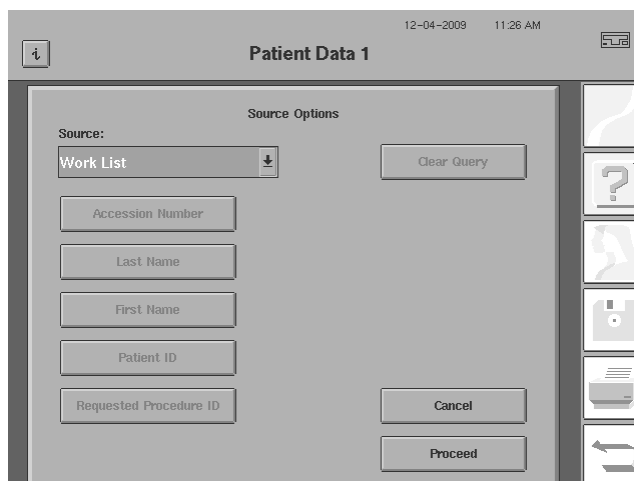

Figure 14.52 Source Options Screen (RETRIEVE ONLY)
- If the Work List Mode is QUERY AND RETRIEVE (See "Setting Up Work Lists for Non-DICOM EMR/PMS Systems and DICOM Systems using DICOM Gateway 1.0," on page I-23), you can limit the selection by Accession Number, Last Name, First Name, Patient ID, and Requested Procedure ID (Figure 14.51). These query fields are case independent. Specify any limitations that you wish to place on your search of all available patients from the Work List. These limitations determine which patient(s) are selected. Select the CLEAR QUERY button to clear all these query fields. If the Work List Mode is RETRIEVE ONLY, then these limiting selections will be greyed out (Figure 14.52) and the complete Work List will be retrieved.